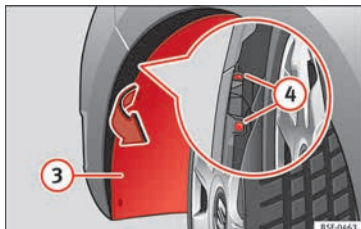

Fig. 113 Fog light: access to the connector and to the light bulb holder.
- Pull the wheel housing ③ » Fig. 113 access the 2 hidden screws ④ » Fig. 113 of the bumper.